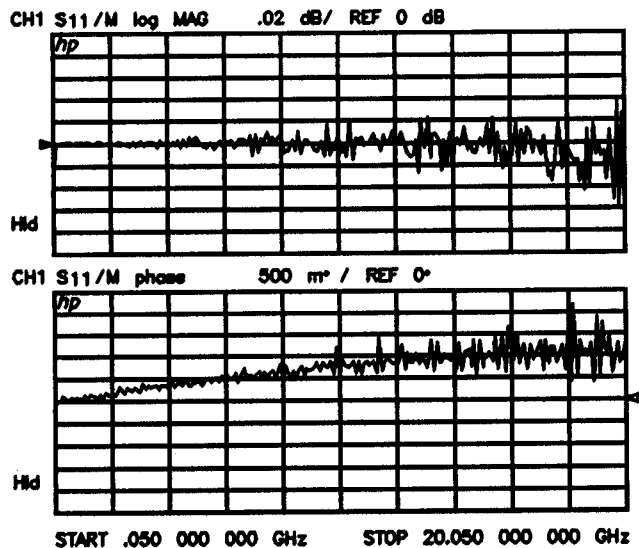

Figure 4-3. Cable Magnitude and Phase Stability
- Place a marker on the largest deflection that goes above and below the reference line and is within the specified frequency range. See Figure 4-3 for example plots of this measurement. Press: